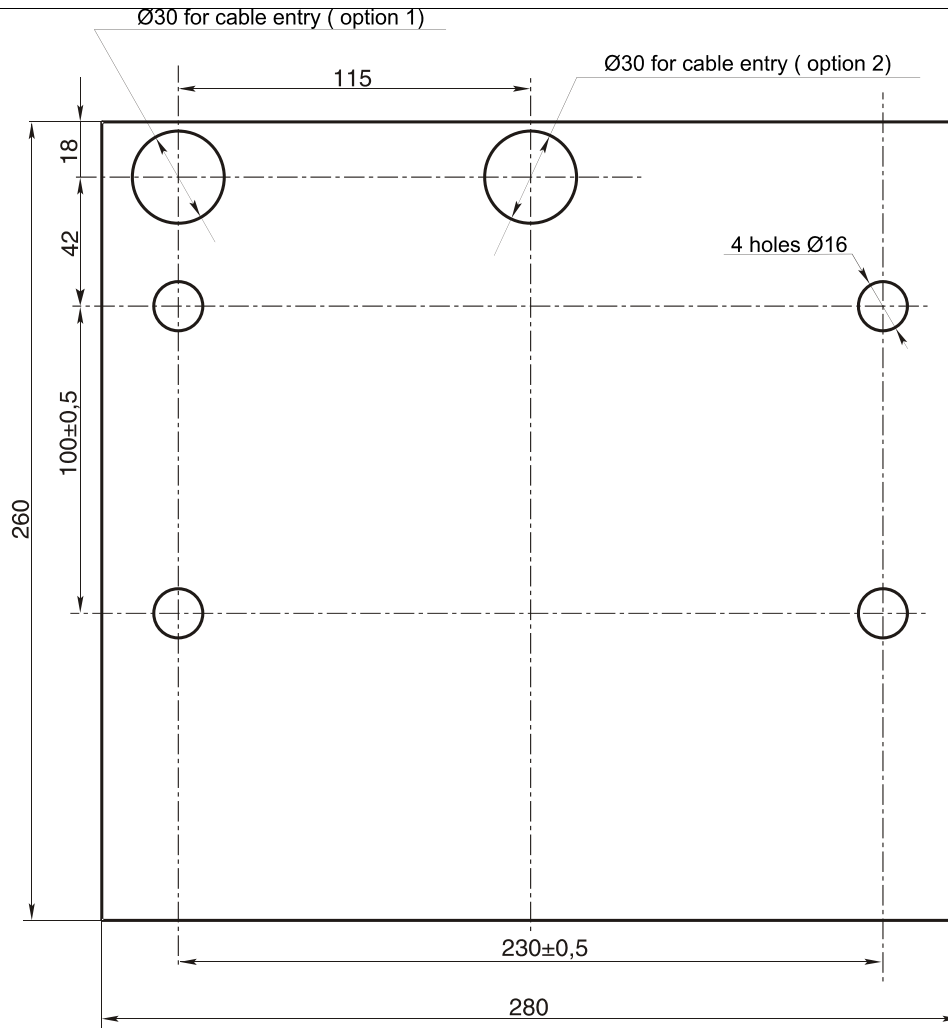

Fig. 9. Floor anchor position and cable entries for housing installation
- to mark the mounting holes according to Fig. 9;
8.4.2 Make the holes for anchor bolt sleeves for the turnstile housing installation (Fig. 9).
Note! If you lay out cables under the floor surface, make an electric raceway to the cables laying zone of the turnstile housing (option 1 or 2 in Fig.9). Fix the housing after laying the cables in the electric raceway and inside the turnstile housing.